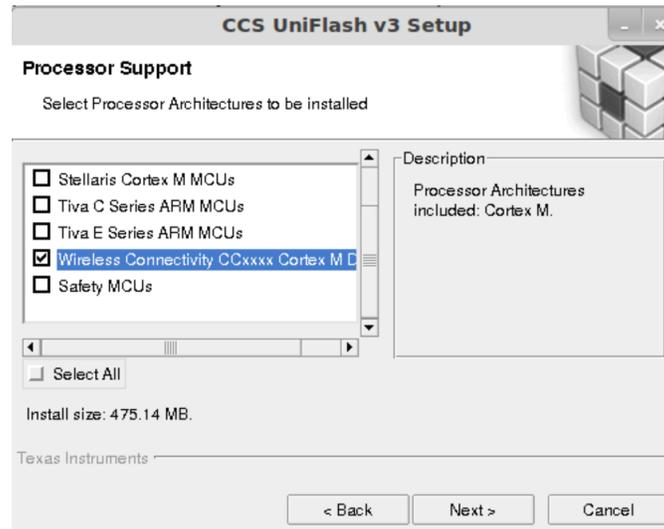

Figure 8. Support for Wireless Connectivity Devices
2. Run the installer (uniflash_setup_x.x.x.xxxxx.bin). Select custom installation and make sure that support for Wireless Connectivity devices is installed (see Figure 8).